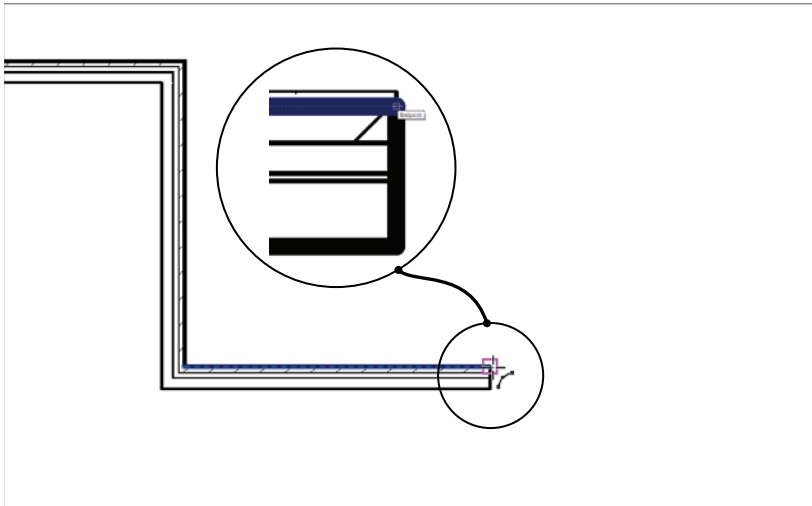

FIGURE 1.31 Select the top corner of the wall to start your new radial wall.
8. With the wheel button on your mouse, zoom into the upper corner of the building and select the top endpoint of the wall, as shown in Figure 1.31. The point you're picking is the corner of the heavy lines. The topmost, thinner line represents a concrete belt course below. If you're having trouble picking the correct point, don't be afraid to zoom into the area by scrolling the mouse wheel.